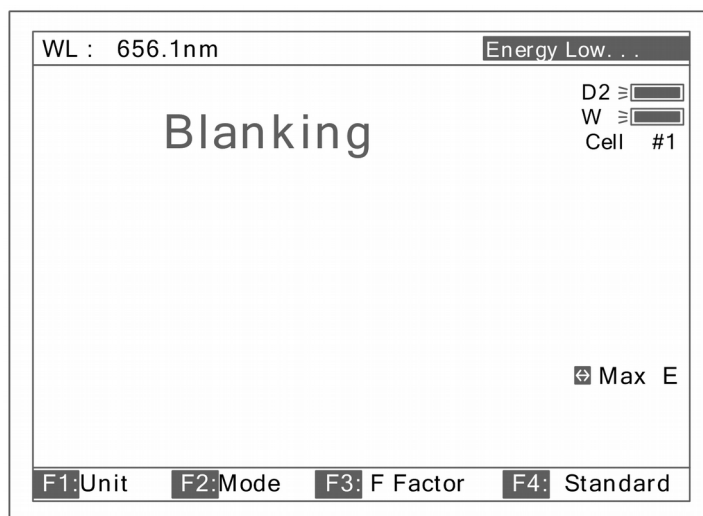
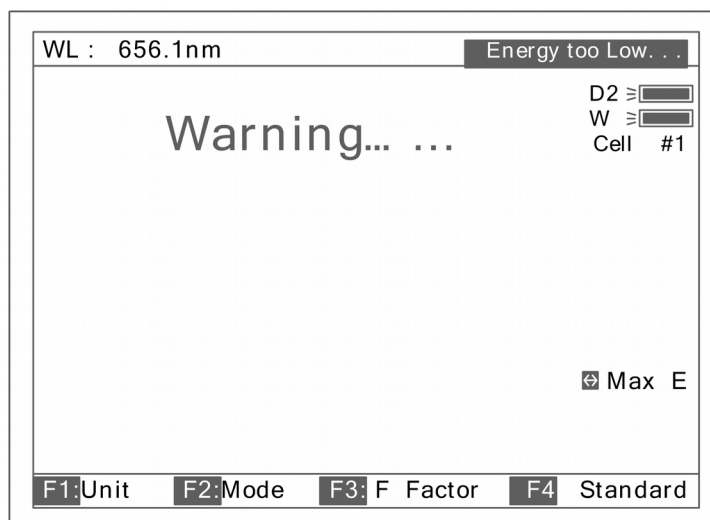

Fig 8
Fig 9
Note: 1. If the reference solution is too thick, "Energy Low..." will appear following the "Blanking..." on the screen (Fig 8). If "Energy too Low..." appears following the "Blanking...", the test will be paused and "Warning..." will appear on the screen. (Fig 9).
2. If no automatic changer installed "cell #1" and "Max E" will disappear in Fig8